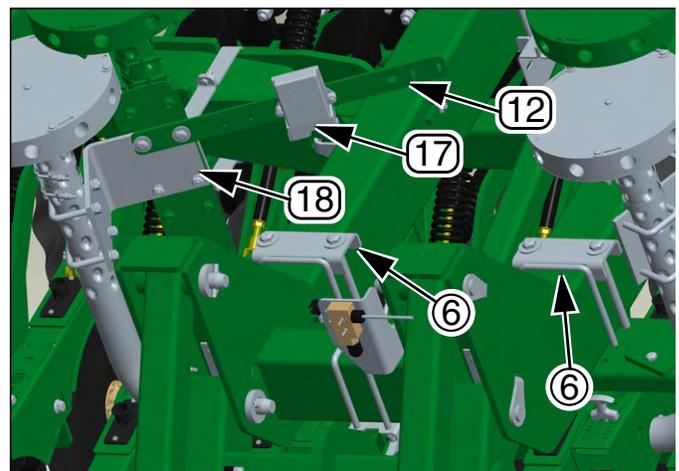
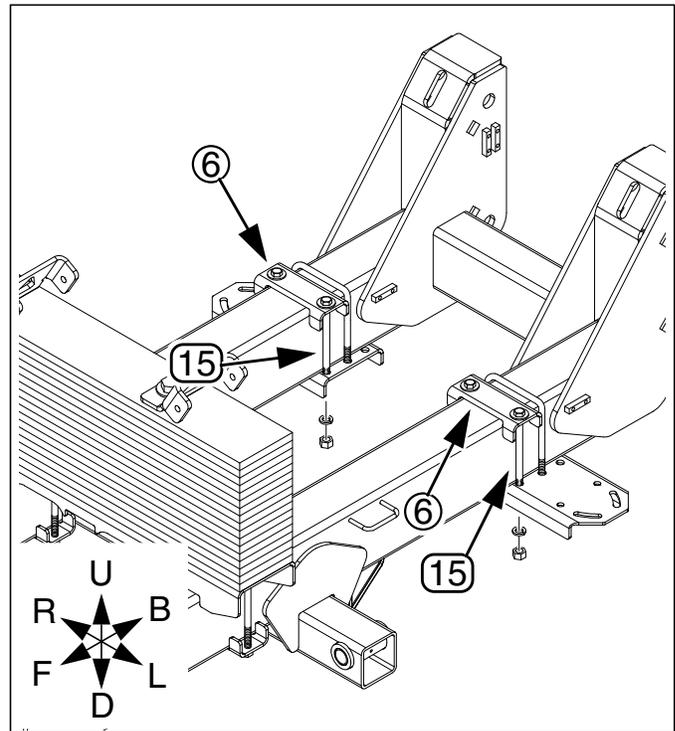

Figure 10
Figure 11
Refer to Figure 10 and Figure 11
5. If you have the double shoot 6in 80-row model: Attach double shoot blockage module mount bracket (12) with attached DICKEY-john® module (17) to upper set of holes in double shoot tower mount angle bracket (18) (Figure 10) using two bolts currently in place on the tower bracket.
- Take the two weight bracket bolt channels ⑥ and two $\frac{5}{8}$ x9in bolts ⑮ per bracket that were removed from the bottom of the mid weight set and remount one each on top of the left and right frame tubes as pictured (Figure 10 and Figure 11).